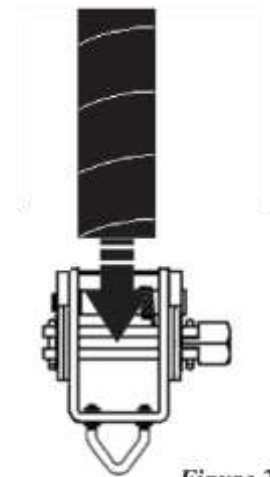

Figure 2.
3. Install the 2" webbing into the winch as shown (fig.2.), tighten slightly to hold.